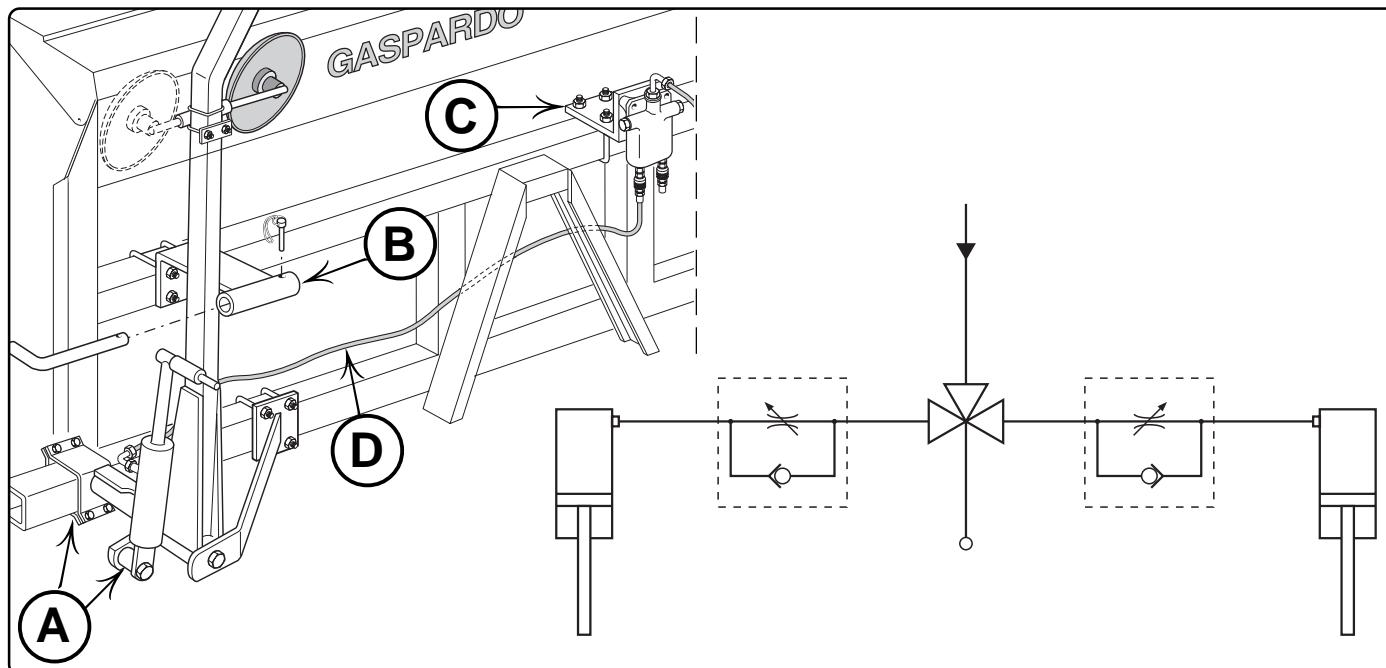

Fig. 7
4) Montare i due gruppi marcatore (A Fig. 7) sulle estremità del tubo inferiore dell'intelaiatura, osservando la corretta disposizione del braccio destro e sinistro.
4) Assemble the two row-marker units (A, Fig. 7) of the lower tubes of the frame, keeping to the correct arrangement of the right and left arm. Fasten the brackets (B) for hooking up the arms and the valve (C) onto the upper tube. It is recommended to pay the utmost attention to the laying down of the flexible pipes of the cylinders (D), the pipes must not interfere with mechanical moving parts so as to avoid accidental rubbing or choking; furthermore it should be possible to unroll and close the pipes without bending them or putting them under stress.
4) Monter les deux groupes qui délimitent les rangées (A Fig. 7) aux extrémités du tube inférieur du châssis, en respectant la position correcte du bras droit et gauche. Fixer les brides (B) pour accrocher les bras et la soupape (C) sur le tube supérieur.
4) Monte los dos grupos marcadores de filas (A fig. 7) en la extremidad del tubo inferior del armazón, observando la posición correcta del brazo derecho e izquierdo. Fije las abrazaderas (B) para enganchar los brazos y la válvula (C) en el tubo superior.